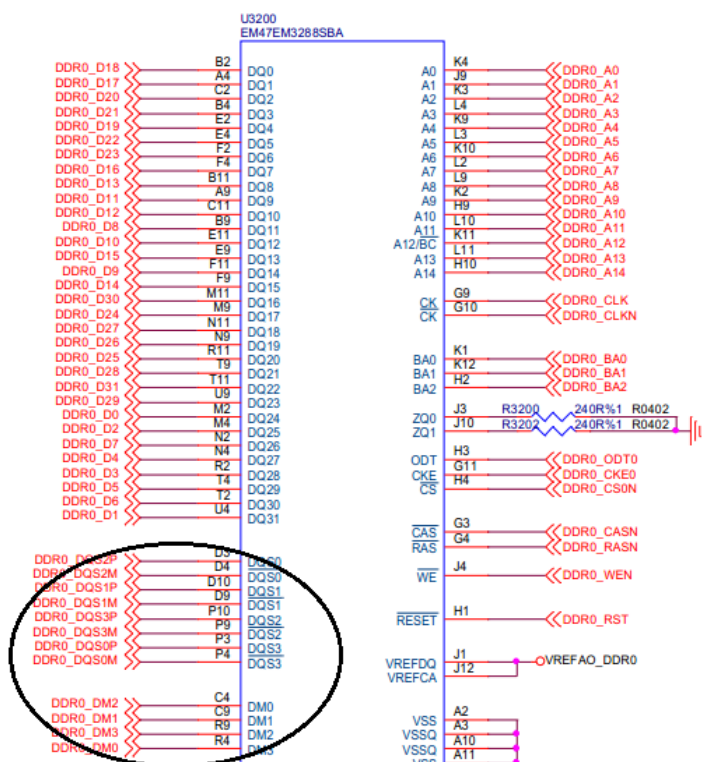

Figure 8-1
- When the data lines are exchanged among Groups, 4 DATA MASKS (DQM0--DQM3) and 4 pairs of DATA STROBES differential pairs (DQS0P/ DQS0M—DQS3P/ DQS3M) are also exchanged simultaneously, shown as Figure 8-1.